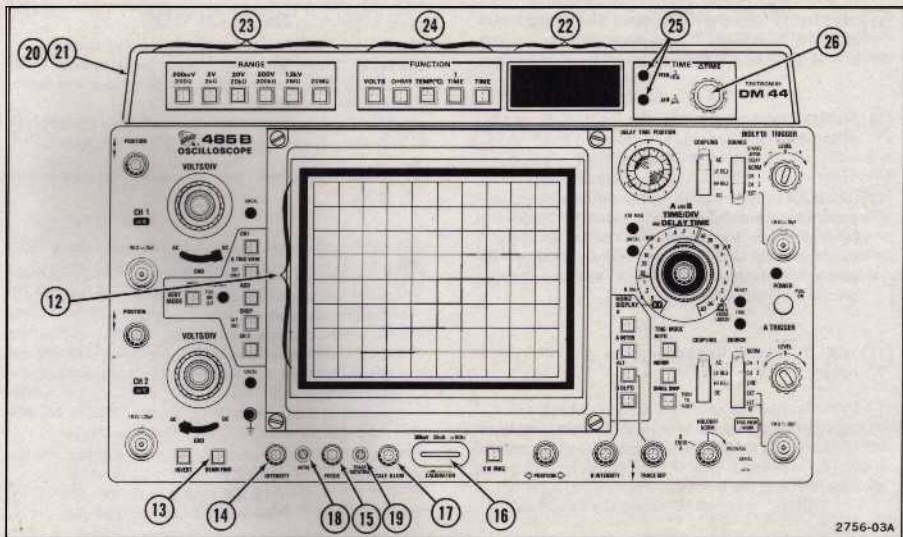

Figure 3. Display, calibrator, and DM44 controls, connectors, and indicators.
Refer to Figure 3 for location of items 12 through 26.